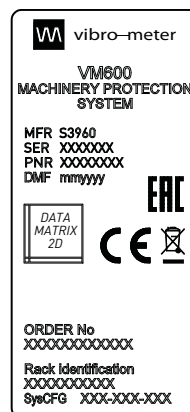

Figure 2-30: Example VM600SYS label (later versions of VM600 system racks)
- A VM600SYS label on a rear panel provides additional information about the VM600 system such as order number and system configuration (SysCFG) number (see Figure 2-30).